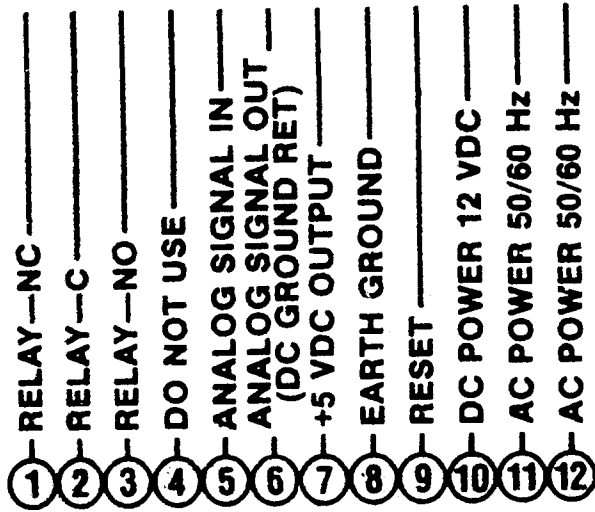

Figure 2-2. Wiring Connections for DP-62
2.3 WIRING CONNECTIONS (Refer to Figure 2-2)
The DP-62 can be wired for either 110 Vac or 12-Vdc operation. Refer to Figure 2-2 for appropriate connections.